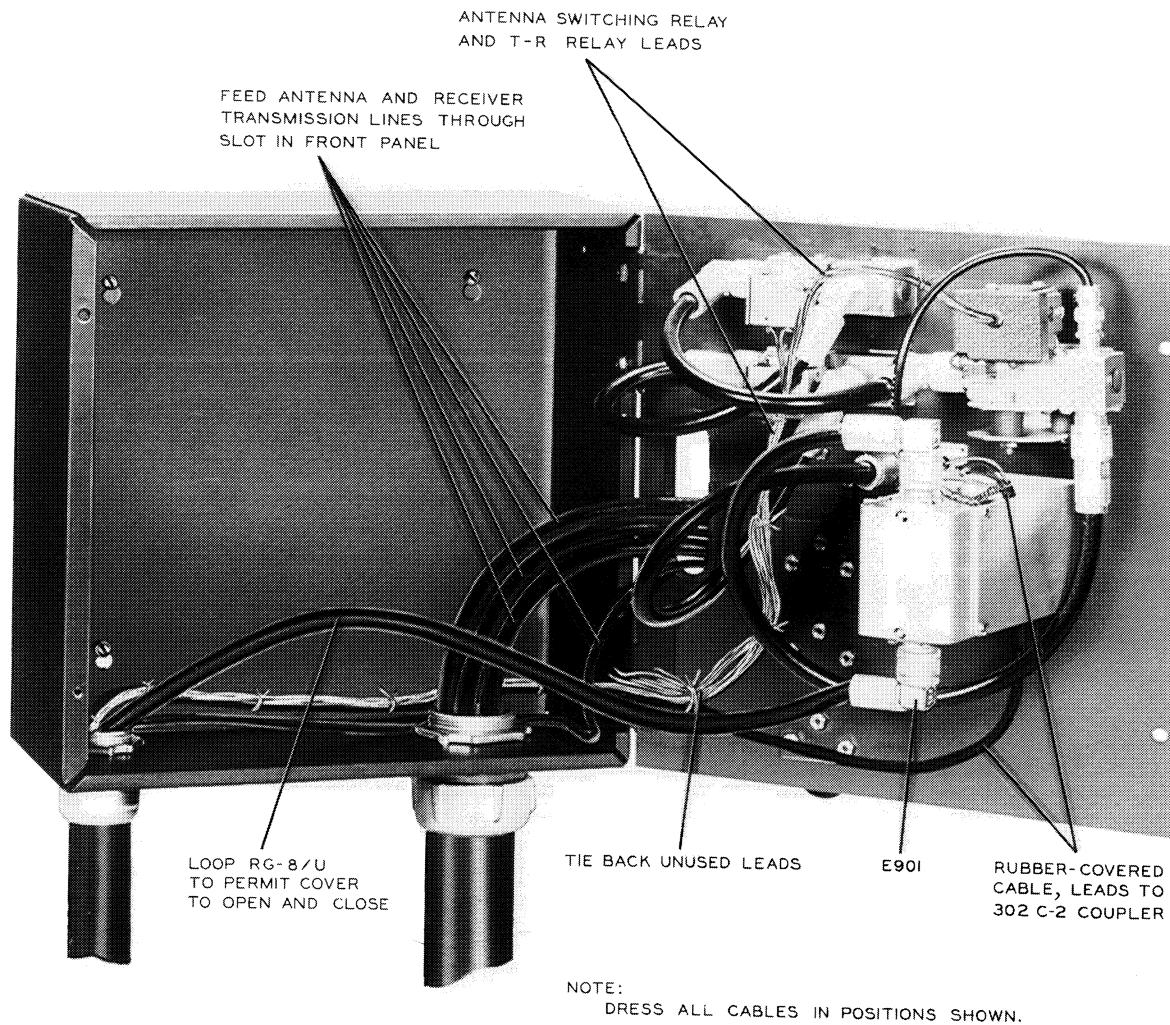
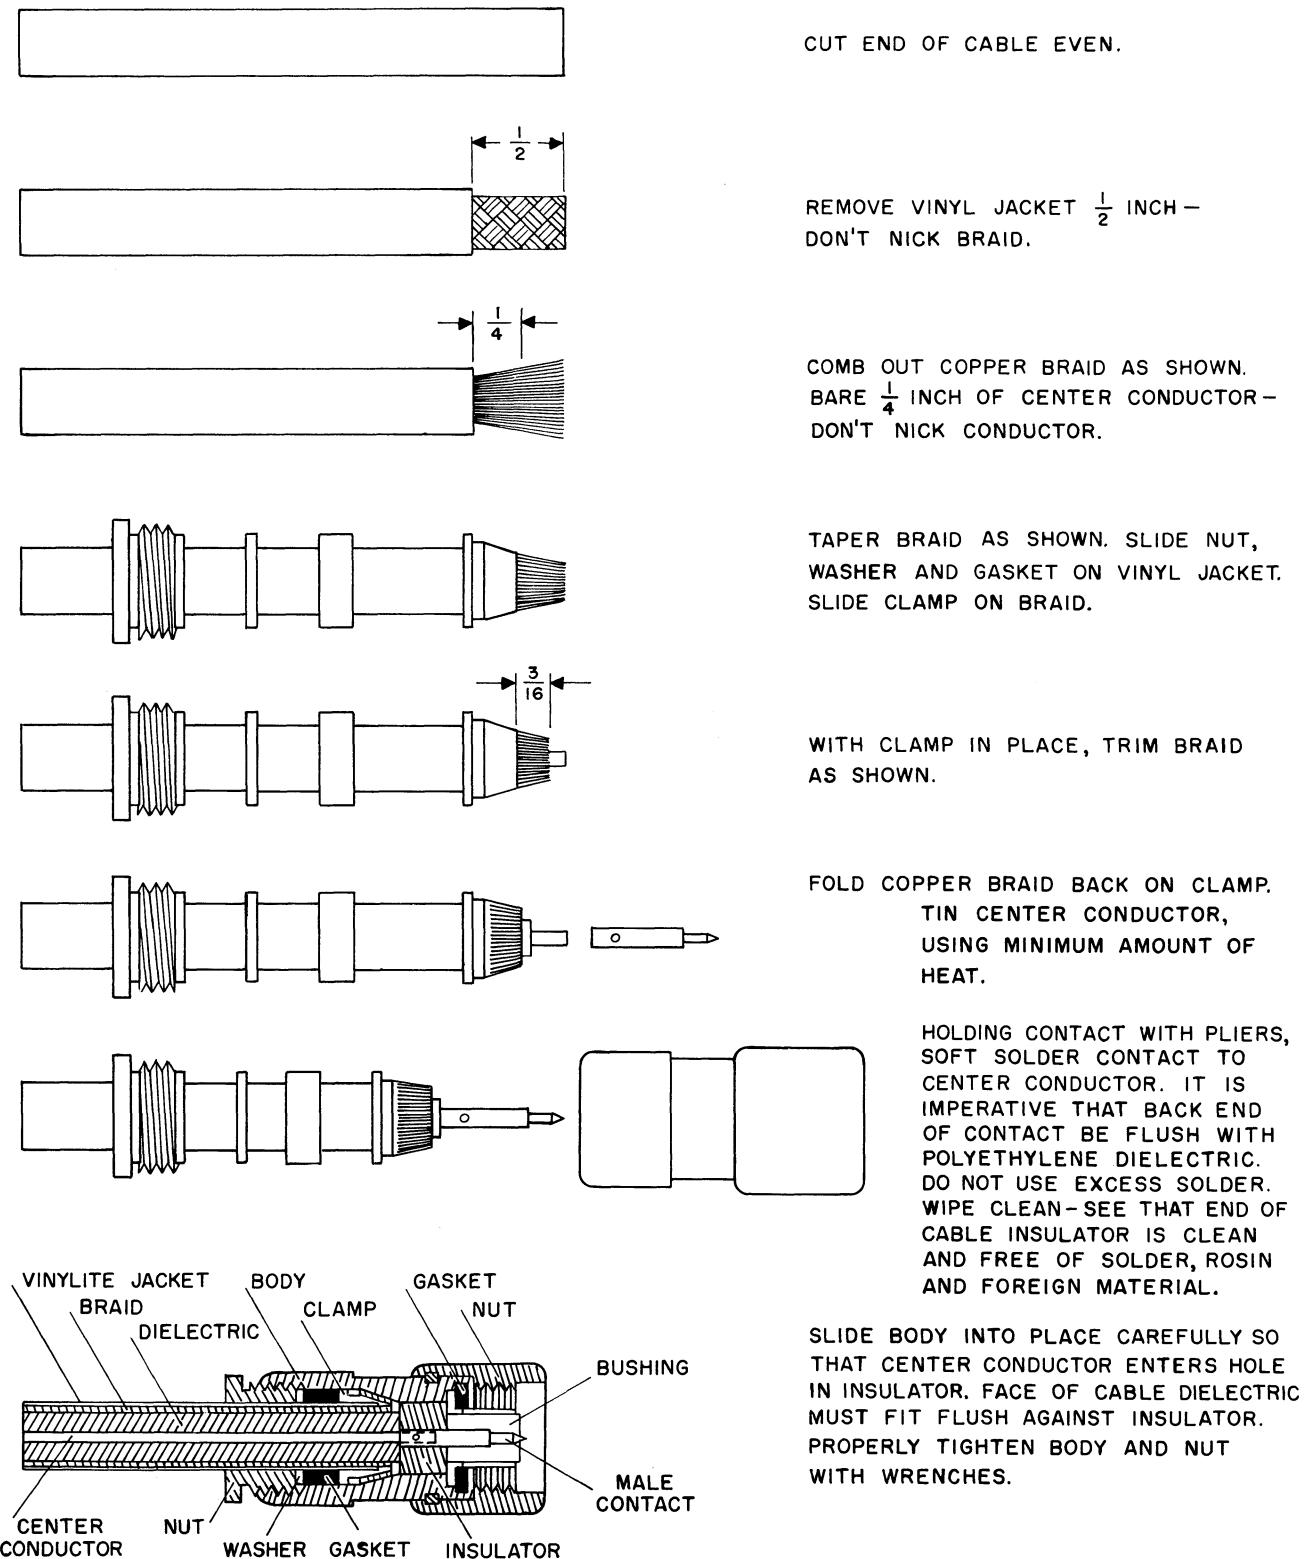

Figure 2-4. 68Y-1 Antenna Selector Unit, Front Cover Open, Showing Method of Dressing Cables and Transmission Lines Inside Unit
Figure 2-5. Installation of Type N Male Connector on RG-8/U Transmission Line
7. Cut all wires and cables entering 68Y-1 unit to length, dressing leads as shown on figure 2-4. Install type N and type BNC connectors on coaxial leads as shown on figures 2-5 and 2-6. RG-8/U transmission lines and RG-58/U line (to 75A-4 Receiver) passed through slot in front cover and looped to patch panels (see figure 2-3).